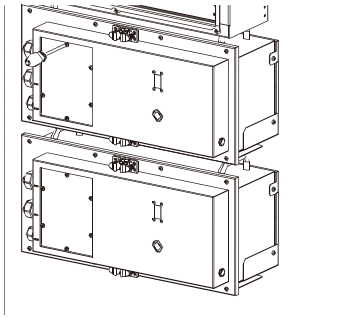

Figure 2.33 Remove the Maintenance Cover of M4856-P
**Step 16** Remove the maintenance cover (Figure 2.33)